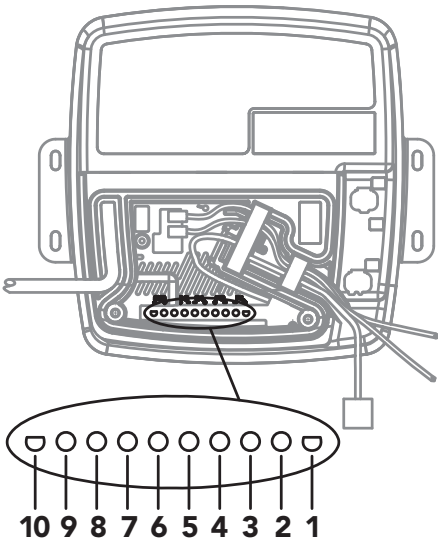

Figure 10
- 1. Connect individual speaker wires — or a 10-pin MATE-N-LOK adapter with attached wires — to the speaker outputs. Refer to **Figure 10** and **Figure 11** for connector identification.